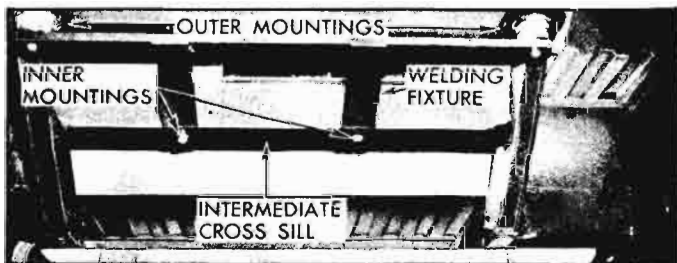

Fig. 10-16a—Rear Suspension Outer Mountings
3. With a grinder, remove welds at rear suspension outer mounting support (fig. 10-16a).
NOTE: A fixture can be used, as previously described. See Figure 10-16a.